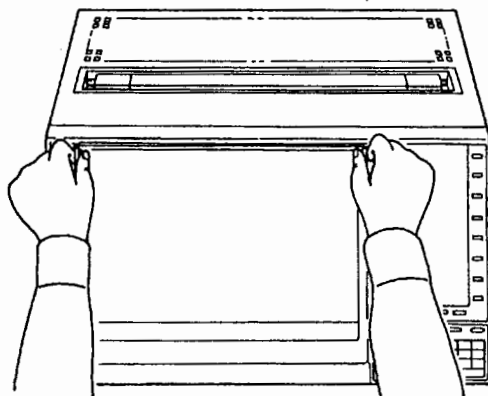

Fig 6.1
- (1) Open the front panel and push the right-hand stoppers on the chart tray to lift the unit. (Figs. 6.1 and 6.2)
- (1) Ruffle both ends of the chart so that the chart sheets can be fed one by one.
- (2) Open the front panel and remove the chart tray from the recorder. (See Figs. 6.1 thru 6.3)